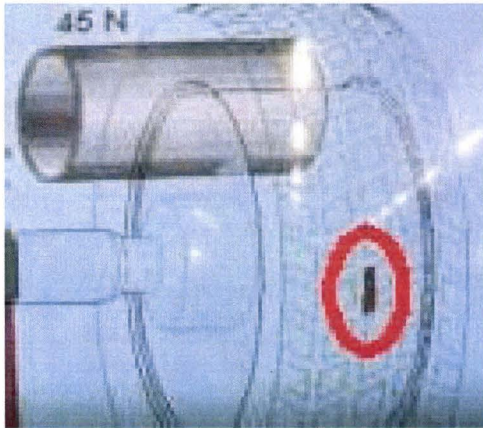

Figure 7
- Once the force matching process is complete, the assembly high spot is identified with a brown dash (Figure 7).